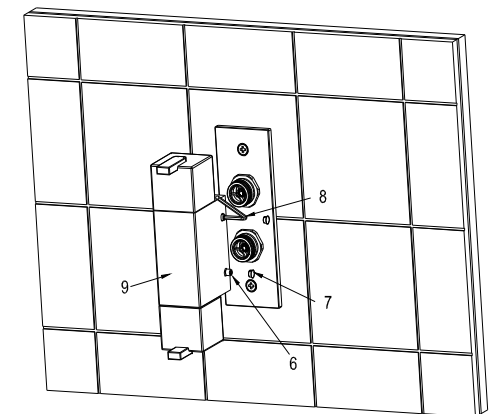

Fig. 4
**4.10** Push shower body (9) onto backplate (outlet pointing downwards) and secure using grubscrews (6) and hexagon key (8) as shown in Fig. 4. Cover grubscrews with chrome caps (7).
**4.17** Push shower body (8) onto backplate (outlet pointing downwards) and secure using grubscrews (7) and hexagon key (6) as shown in Fig. 4.